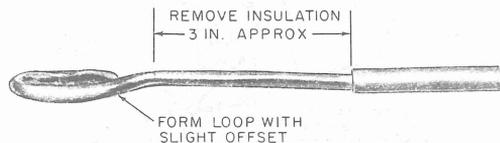

Fig. 43—Loop Formed at End of Ground Wire
- (d) Cut a length of No. 6 ground wire or B ground wire and form a loop at each end of the wire. One end of the wire will be placed in contact with the metallic shield. The other end will be terminated on a cable lashing clamp. The finished length of the wire should be 2 to 3 inches longer than the actual distance between the exposed metallic shield and the cable lashing clamp. Form the wire end that will be in contact with the metallic shield as shown in Fig. 43.